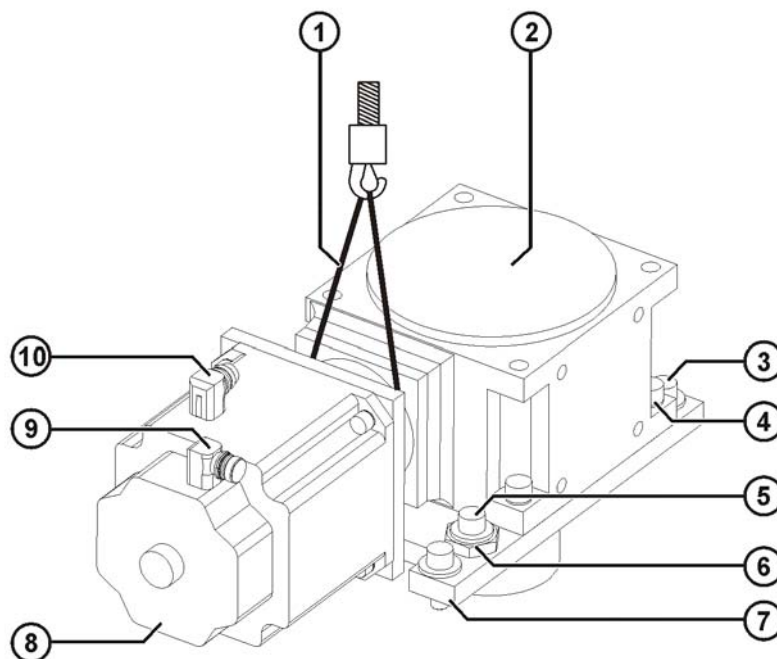

Fig. 11-2: Installing the drive assembly
1. Screw gear unit (>>> Fig. 11-2) to the intermediate plate using four M16x40-8.8 Allen screws (4) and lock washers. Tighten the Allen screws with a torque of $M_A = 195 \text{ Nm}$.
3. Insert three M16x45-10.9 Allen screws (3) and lock washers and tighten until the drive assembly can still just be shifted.
4. Insert the eccentric and the M16x55-10.9 Allen screw (5) together with lock washer and lightly tighten.
7. Tighten the three M16x45-10.9 Allen screws (3) and the M16x55-10.9 Allen screw (5) with a tightening torque of $M_A = 250 \text{ Nm}$.